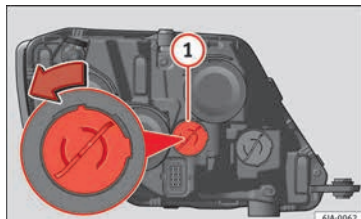

Fig. 94 Changing daytime driving light bulbs.
- Turn the bulb holder »»» **Fig. 94** ① anti-clockwise and remove it.